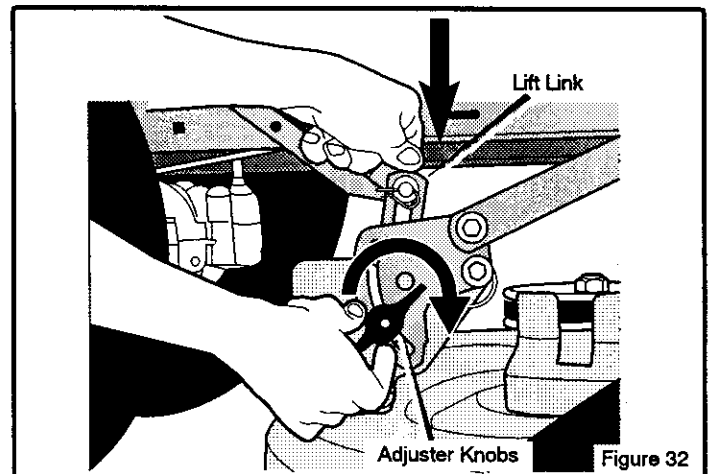

Figure 32
6. Loosen the left and right adjuster knobs (Figure 32). Push down on each side of the mower housing. Make sure both sides of the mower housing are setting on a flat surface. Also, make sure the lift links are loose and can easily move up or down.
7. Push down on the lift links and tighten the left and right adjuster knobs (Figure 32). Make sure the adjuster knobs are tight. If necessary, use a wrench to tighten the adjuster knobs.